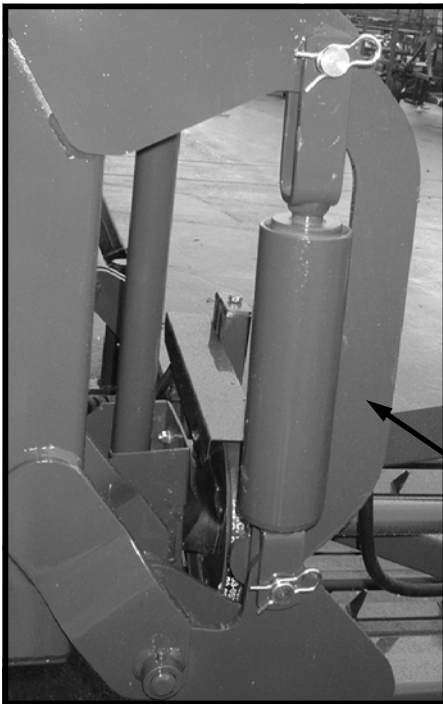

Figure 9
**FOR TRANSPORT:** Simply fold vine conditioner, place transport straps in position, and go. Refer to Figure 9.